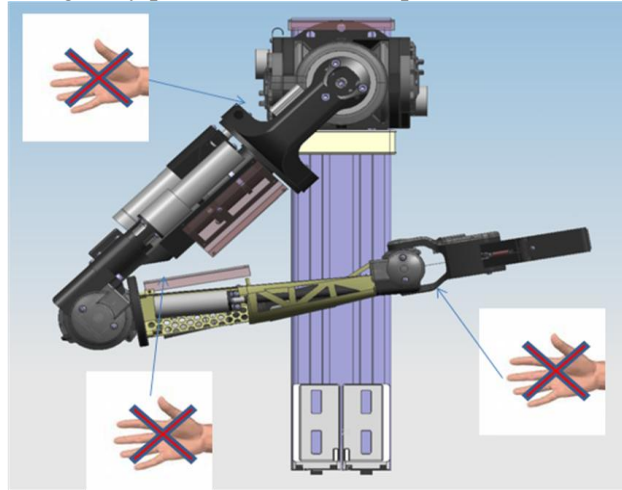

Figure 8 Never stick fingers or any other body parts in between shoulder moving parts or elbow moving parts.
earth the power supply using the provided cable. See Figure 6-Figure 8 for illustration.
- Do never stick fingers between shoulder, elbow and wrist joints as indicated in Figure 8. As the robot is able to lift 1.5 kg the force that can be exerted on body parts near the point of rotation is large. In all circumstances humans inserting body parts in these critical places should be avoided.